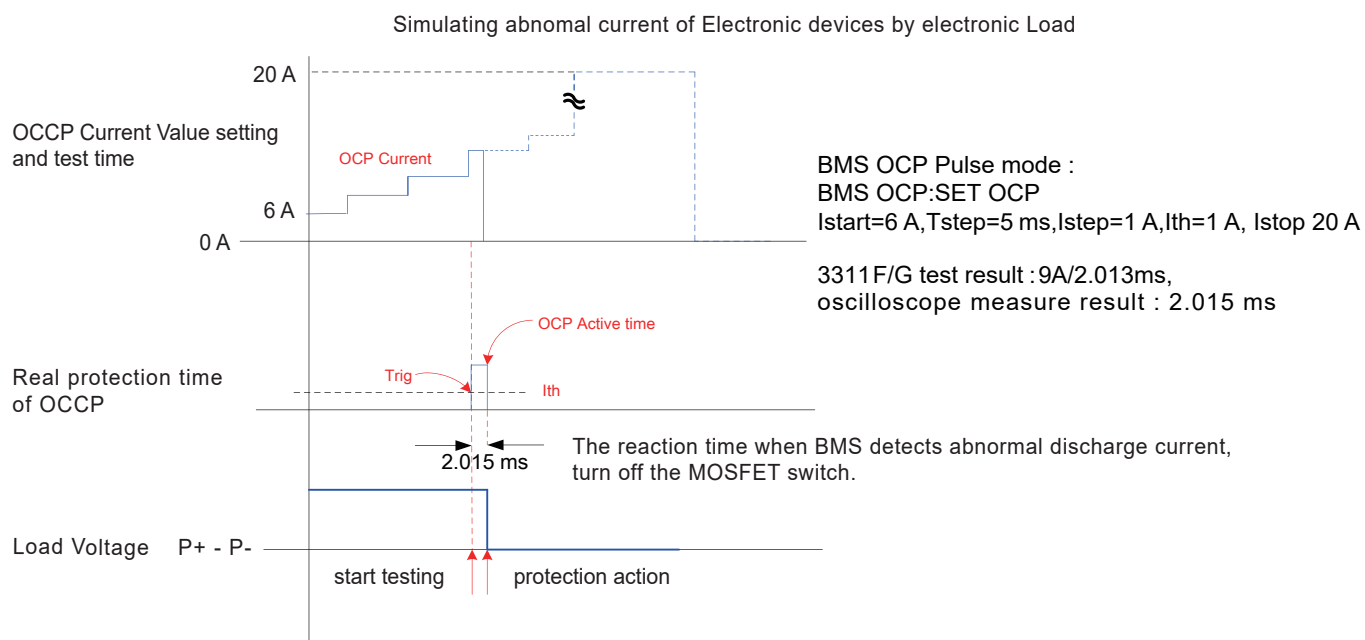

Figure 8 3311F/G with BMS for over current charge test procedure (single pulse current)
3.2 Continuous STEP pulse over current protection test mode, it is similar to the single-pulse mode, continuous pulse mode Except the start current setting, also the time of each STEP, that is each STEP increases current until the final STEP value. Figure 8 is BMS over charge current test procedure of 3311F/G single pulse current, and FIG. 9 is the actual test results, on left it shows the current waveform of oscilloscope of BMS over charge current protection, on the right is the actual test 3311F/G with BMS for over current charge value and the protection response time.